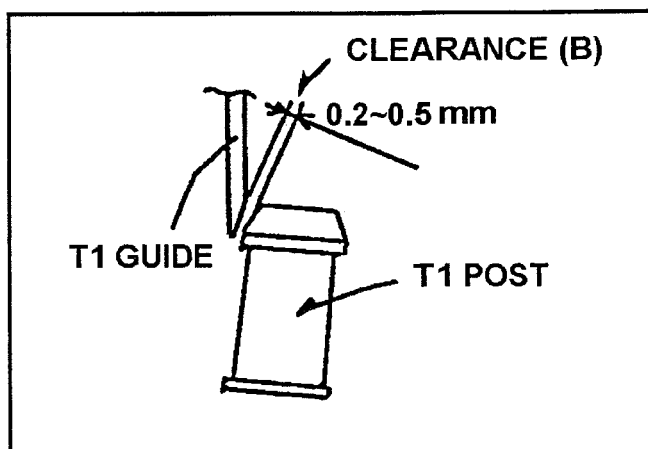

Fig. 6-8-2 Adjust of T1 Guide
1. Observe the clearance (B) between T1 Guide and T1 post as shown in Figure 6-8-2. And make sure that it is within 0.2 to 0.5mm.
2. If not, loosen the 2 screws (A) and adjust the position of T1 Guide by moving arrow direction (G \leftrightarrow G) so that the clearance (B) is within specification. And tighten the 2 screws (A).